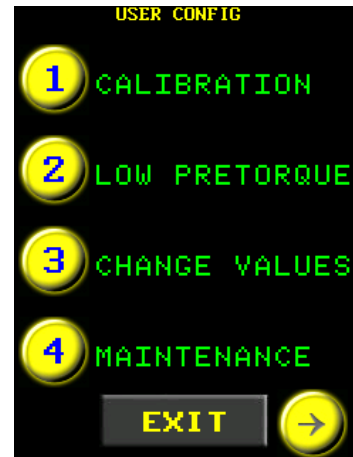

Figure 5.21-2: User Configuration Menu
3. Select “Change Values” from the User Configuration Menu (Figure 5.21-2).